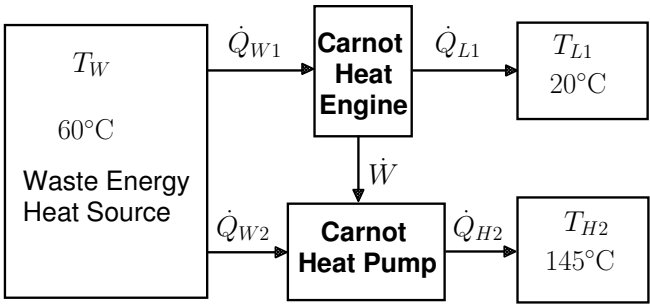

Figure 4: Figure for problem 4
4. A Carnot heat engine is used to drive a Carnot heat pump as shown in Figure 4. The heat engine takes \dot{Q}_{W1} from a waste energy heat source at 60°C , produces just enough work, \dot{W} , to drive the heat pump, and rejects energy \dot{Q}_{L1} at 20°C . The waste energy heat source also supplies \dot{Q}_{W2} to the heat pump that delivers \dot{Q}_{H2} at 145°C . If the total waste energy supplied ($\dot{Q}_{W1} + \dot{Q}_{W2}$) is 5.00 MW, determine \dot{Q}_{H2} in MW.